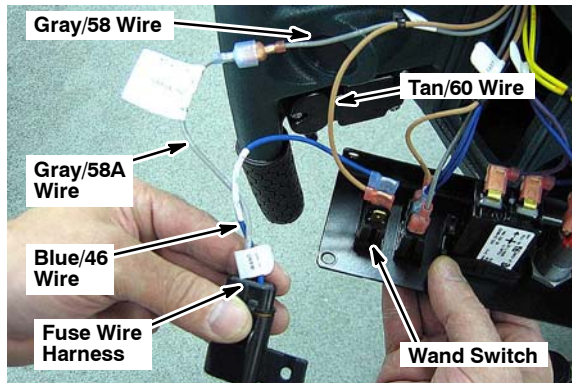

Fig. 10
15. Using the fuse wire harness supplied with kit, connect the gray/58A wire to the gray/58 wire from the console. Connect the blue/46 wire to the bottom switch terminal. Then connect the tan/60 wire from the console to the middle switch terminal (Figure 10). Secure wiring with supplied wire-tie.